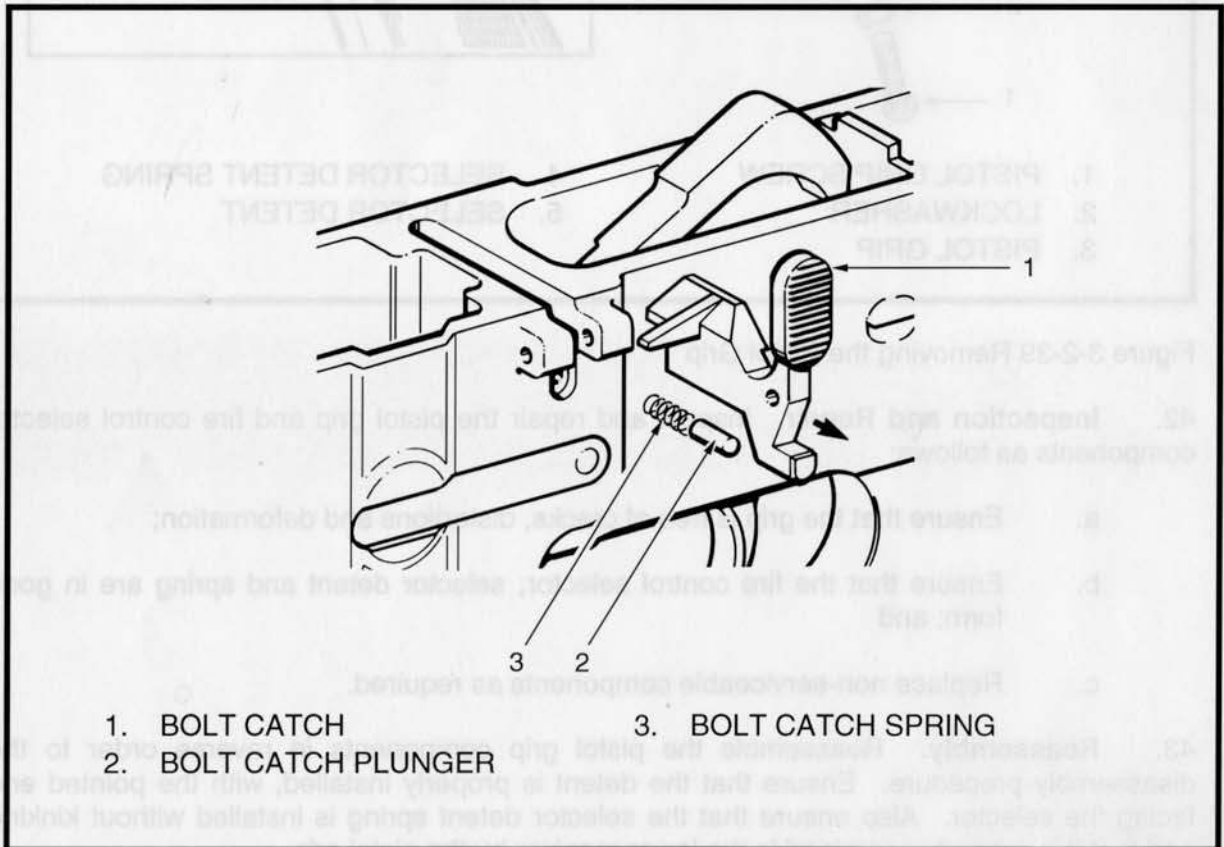

Figure 3-2-41 Removing the Bolt Catch Components
- c. See Figure 3-2-41. Carefully release pressure and remove the bolt catch (1) bolt catch plunger (2) and the bolt catch spring (3).